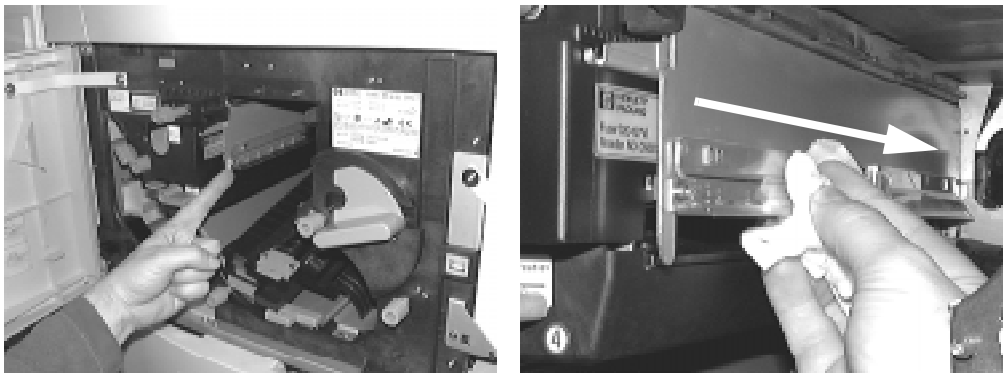

Figure 5-10 Cleaning LED Array
1. Use the supplied cleaning cloths to wipe up any toner or dust off the outside of the LED array. Clean all the way across the LED array. Figure 5-10 shows the LED array and illustrates the cleaning procedure.